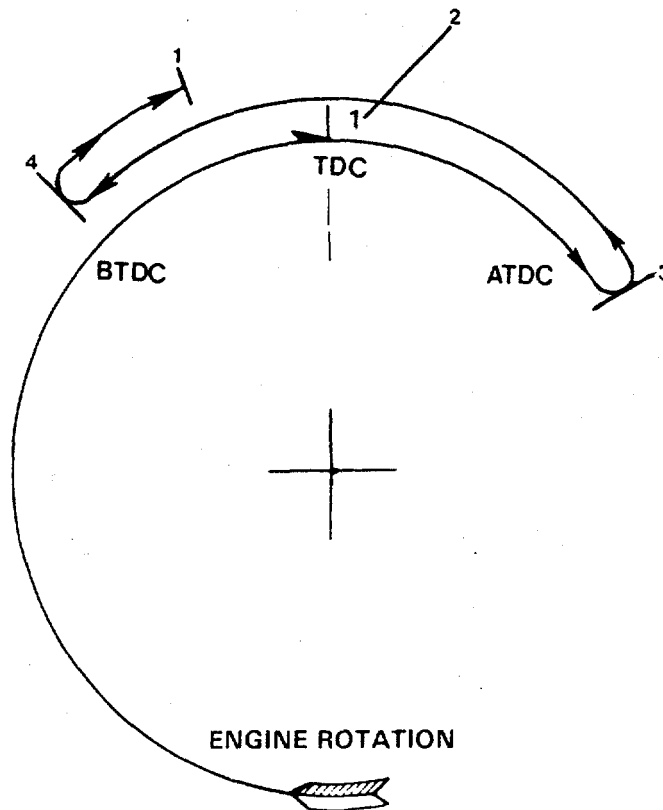

FIGURE 3-28. Timing Tool Travel.
- (h) Loosen the support bracket (2).
- (i) Slide the bracket down until the push rod adapter (4) engages the push rod. Then, compress the tension spring (7) for the adapter approximately 0.50 inch (12.7 mm).
- (k) Rotate the crankshaft in the direction of engine rotation to the Top Dead Center (TDC) position (1, Figure 3-28) of the compression stroke for the No. 1 cylinder.
- (1) Loosen the thumbscrew for the piston travel gauge. Move the gauge so that the stem of the gauge is in the center of the piston plunger rod.
- (q) Rotate the crankshaft in the direction of engine rotation to 90 degrees After Top Dead Center (ATDC) (3, Figure 3-28).